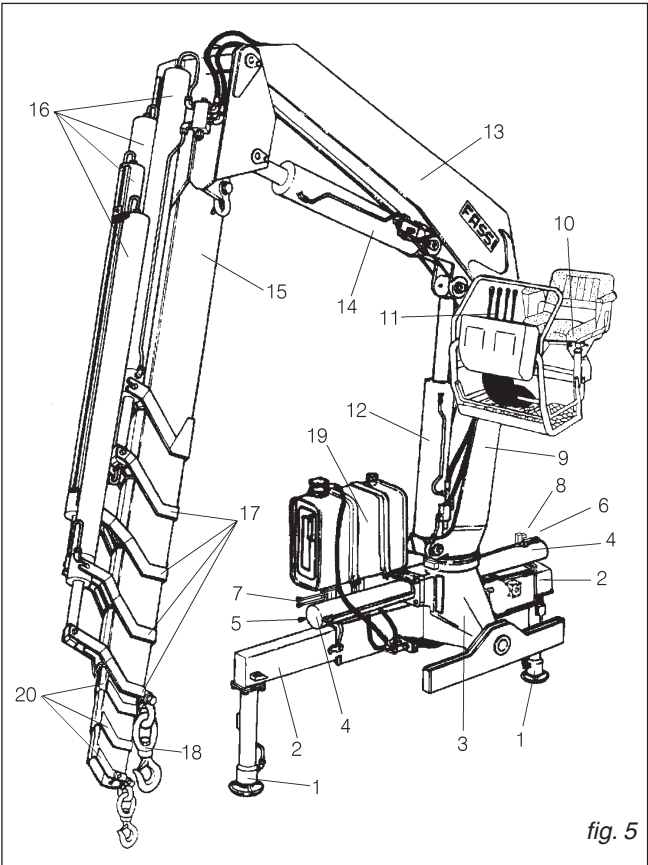

fig. 5
9.2 Crane with top seat controls and with ground controls for outriggers. (fig. 5)